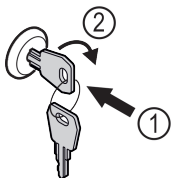

Fig. 150
- ▶ Insert key Fig. 150 (1).
- ▶ Turn key clockwise by 90° Fig. 150 (2).